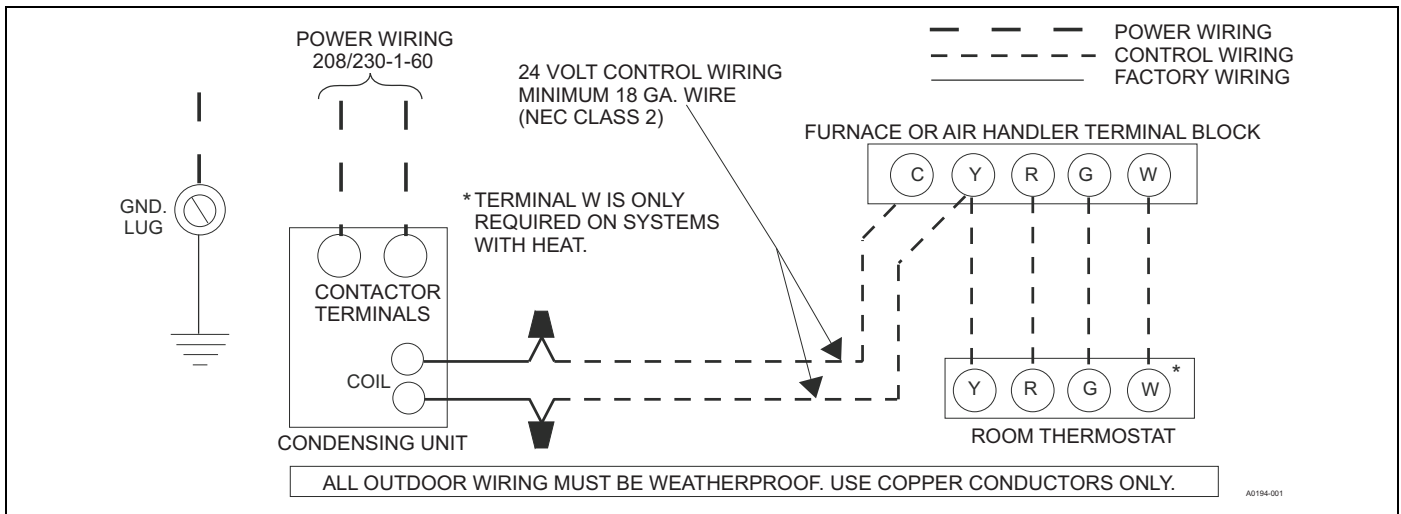
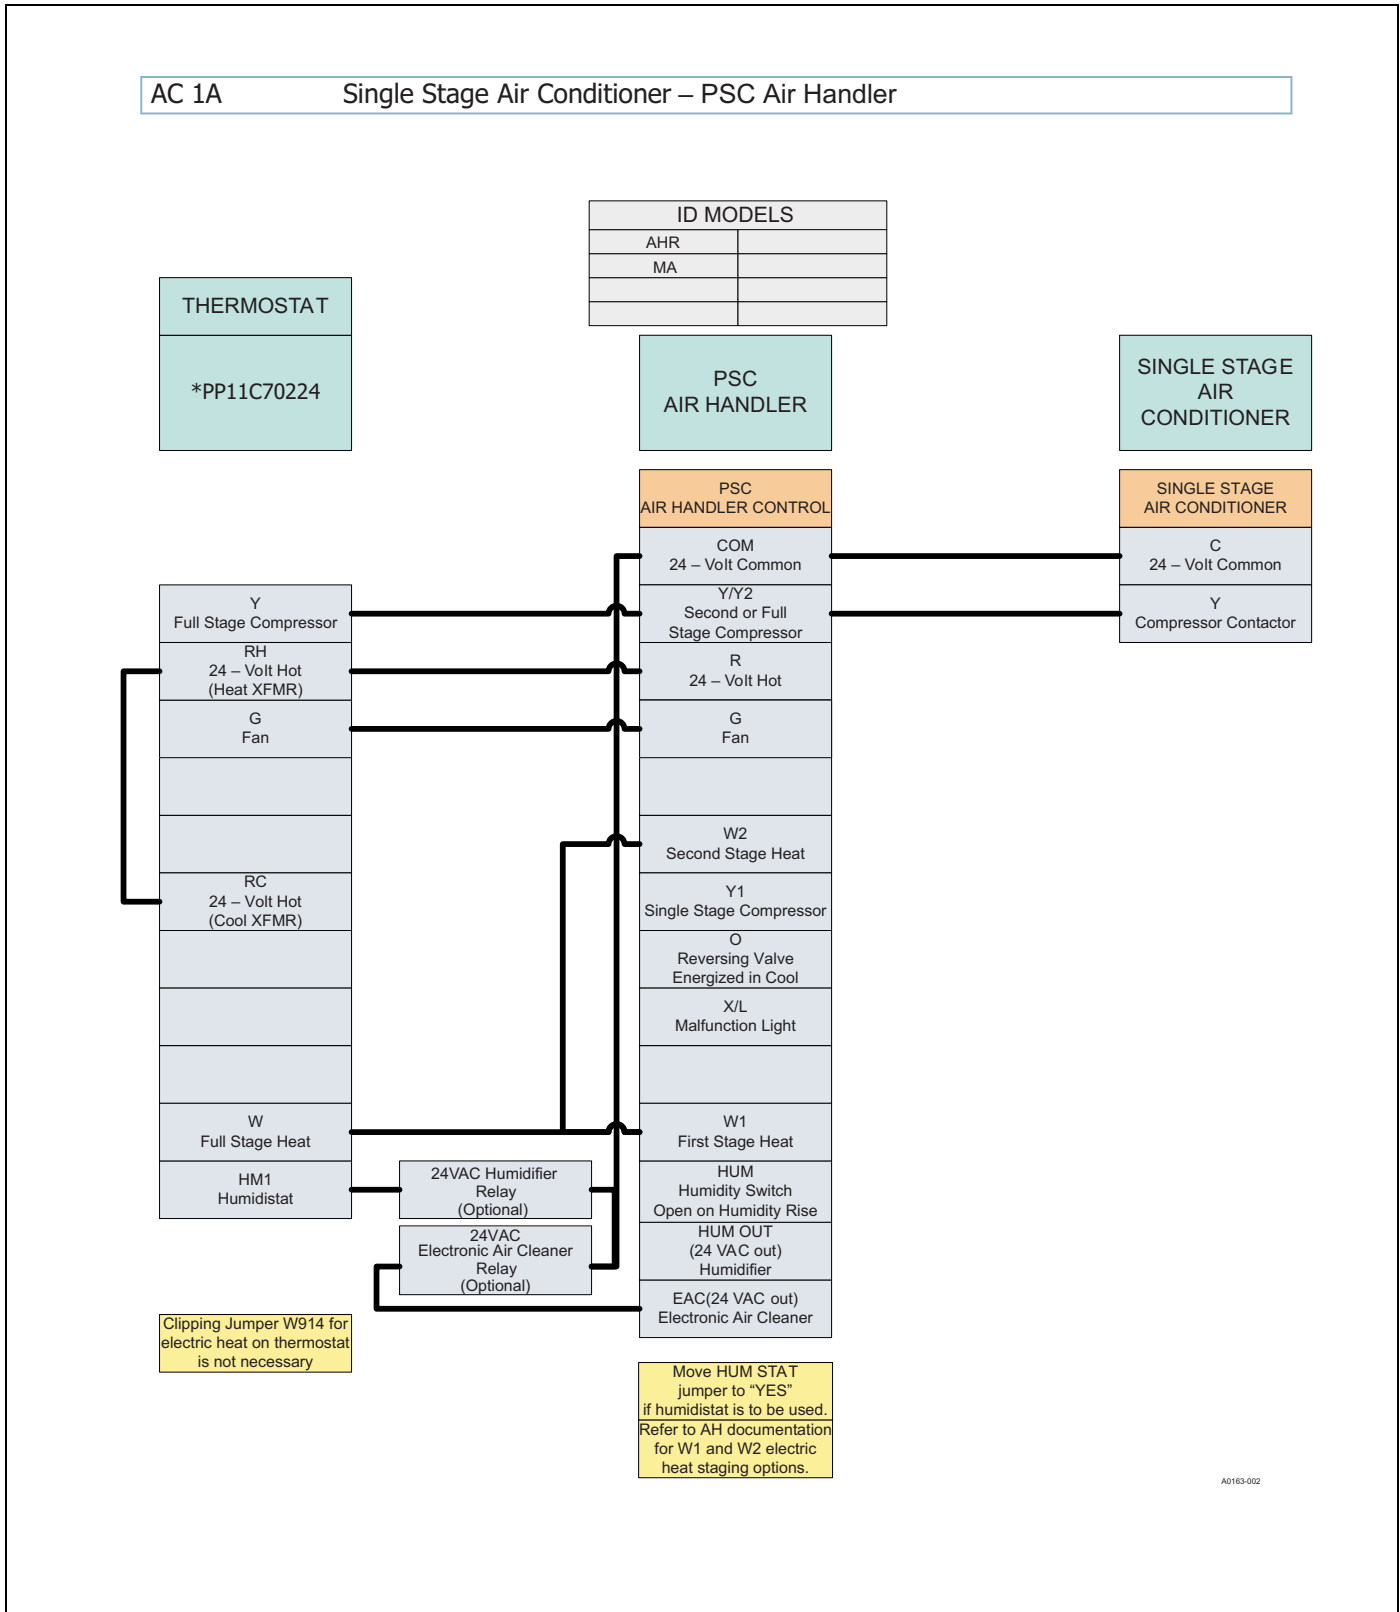

FIGURE 6: Typical Field Wiring (Air Handler / Electrical Heat) (Single-Phase)
FIGURE 8: Thermostat Chart - Single Stage AC with PSC Air Handler
4. Route wires from disconnect through power wiring opening provided and into the top of the field wiring box as shown in Figure 6.
1. Route low voltage wiring into bottom of field wiring box as shown in Figure 6. Make low voltage wiring connections inside the low voltage box per Figures 8 - 11.